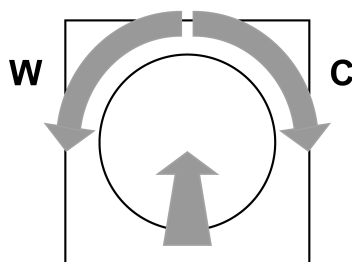

Figure 2
- i** When saving the colour temperature, you must ensure that the last turn of the pressed control knob (Figure 2) is made to the left for the warmest light colour (W) and to the right for the coldest light colour (C).
- Turn pressed control knob to the left (W) until reaching the warmest light colour required, and hold it in this position for more than 10 seconds.